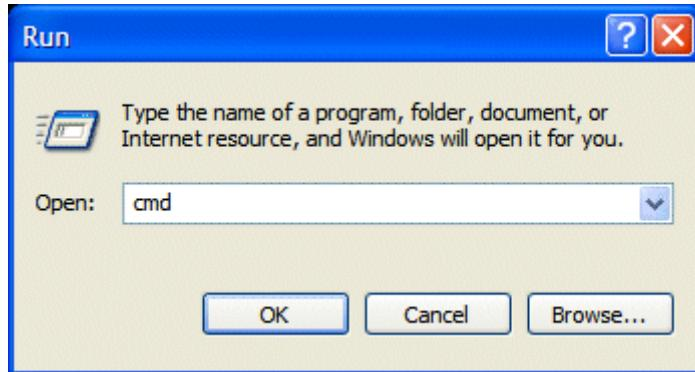

Figure 8-4. Using the Run dialog.
- 1) Click the Start button, then select the Run option, then type "cmd" (short for "command") as illustrated in Figure 8-4.